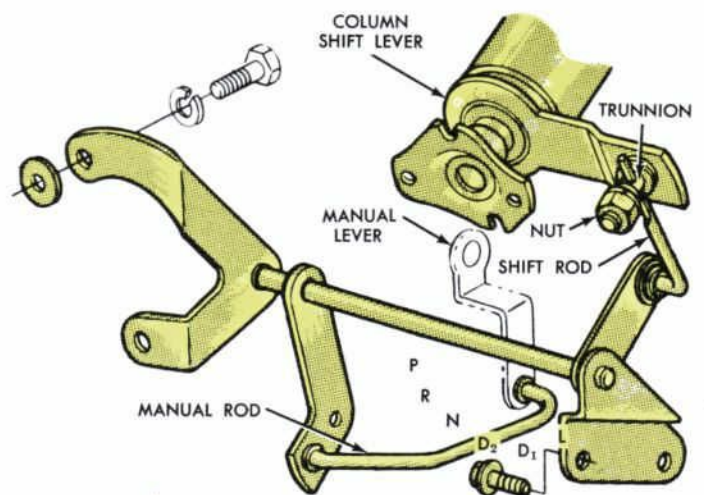

Fig. 88—Shift Linkage—Column Shift
- 2 Loosen the nut on the shift rod trunnion (Fig. 88) to permit the column shift lever to slide on the rod.